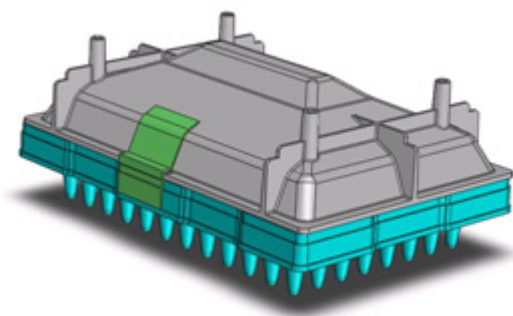

Figure 38 The SOLiD™ Emulsion Collection Tray taped to a 96-well reaction plate.
1. Place the SOLiD™ Emulsion Collection Tray on top of the ePCR 96-well plate (see Figure 38).